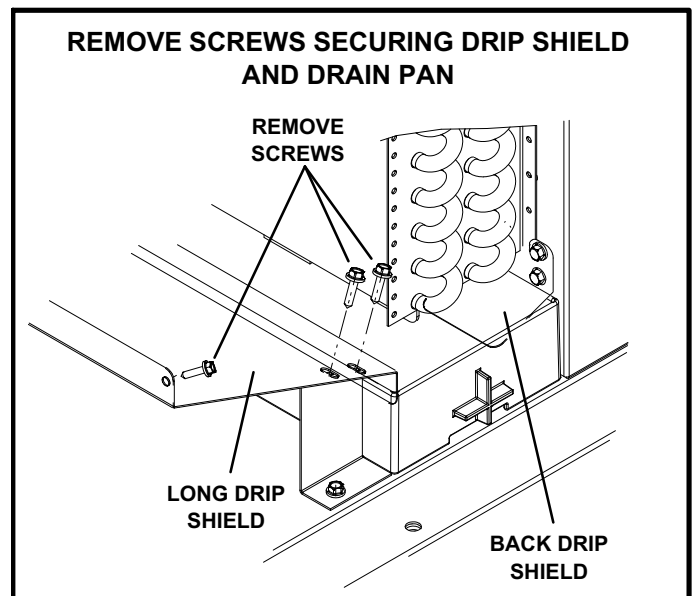

FIGURE 11
- 8- Remove and retain three screws securing drip shields on back side of unit. See figure 11. Remove long drip shield.